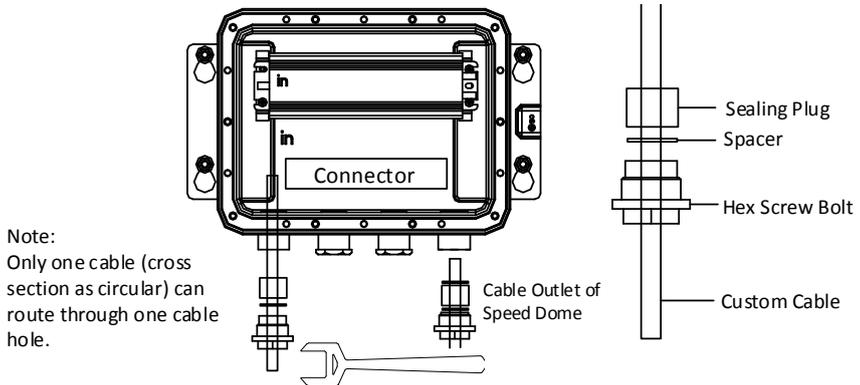

Figure 2-5 Interface of Custom Cables
2. Route the cables through the connectors. Make sure each cable is routed through one cable hole only and all terminals are tightly sealed with waterproof adhesive, as shown in Figure 2-5.